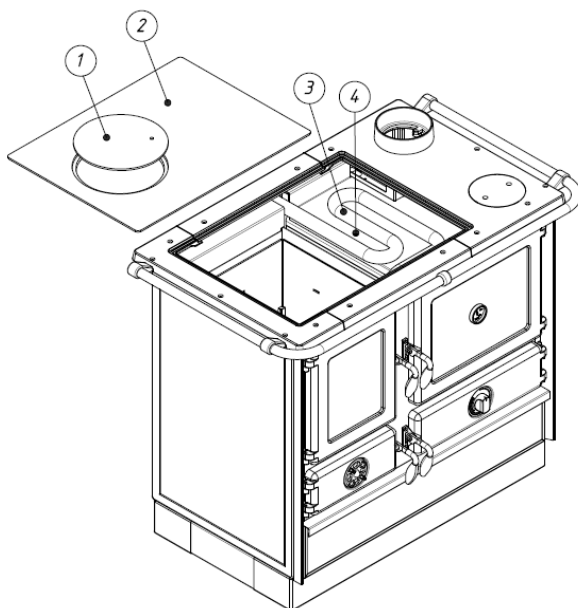

Figure 11
Cleaning the boiler pipe (Figure 11) – when cleaning the boiler pipe (3) located above the oven and the space between the pipe and the oven (4) remove the hob cover (1) and the hob (2) and clean the soot from the pipe (3) and the space under it (4). Repeat every 15 days to prevent the accumulation of soot and enable unobstructed flow of flue gases. This will enable the boiler to function properly.